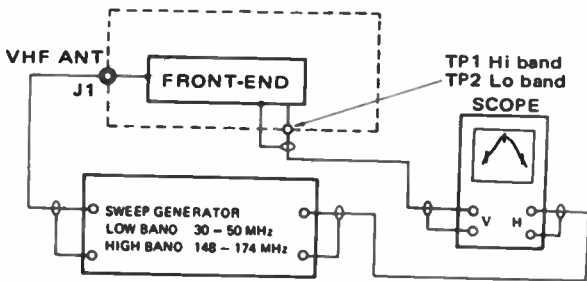

FIGURE 5. VHF LOW/HIGH BAND RF TEST EQPT. HOOK UP
- Step 1: Connect the instruments as shown in Figure 5.